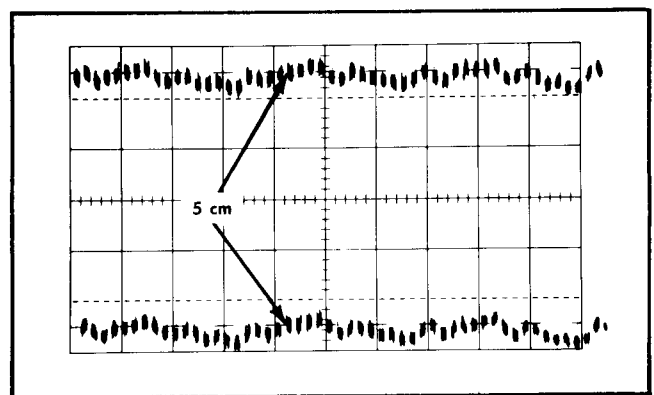

Fig. 5-4. Typical single-shot display showing correct gain at $10 \mu\text{V}/\text{cm}$.
h. Check—Crt display for exactly 5 cm (± 1 mm) of deflection (see Fig. 5-4).